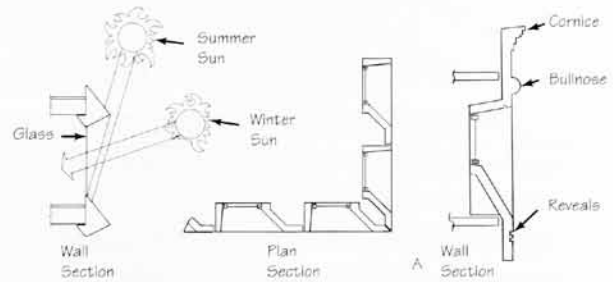

Figure 3 Window Configurations
- They can be recessed to optimize seasonal solar heat or to reduce glare (**Figs. 3, 4 & 5**)